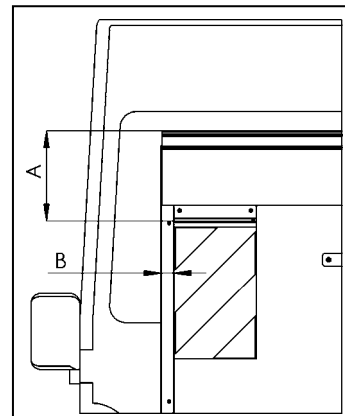
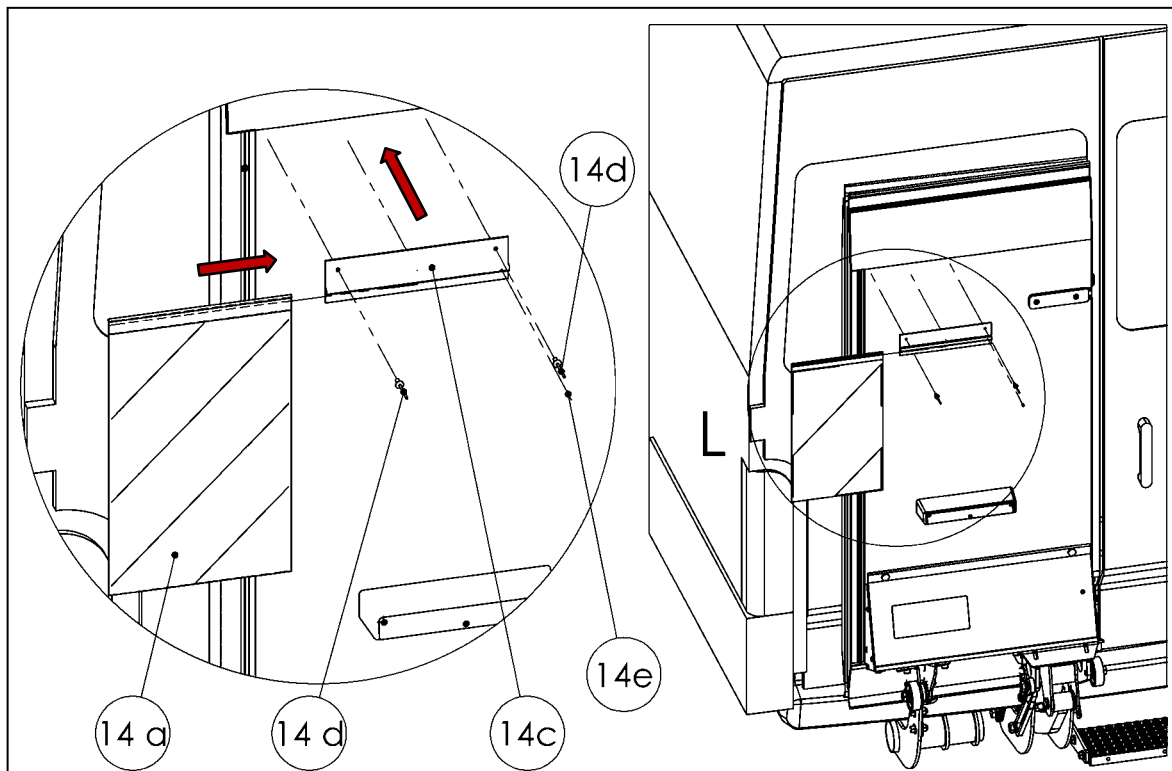
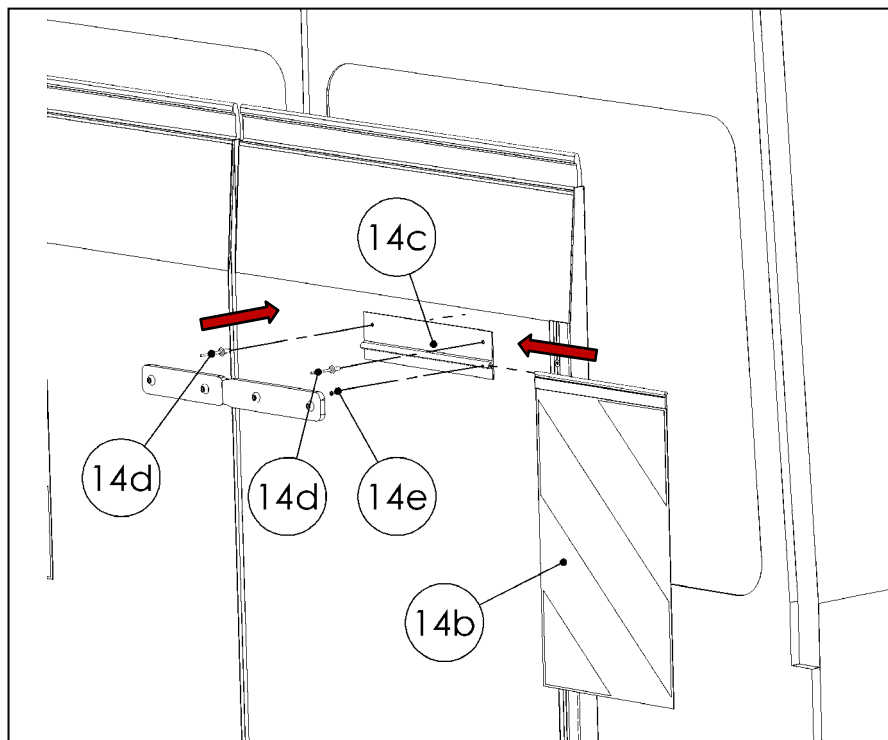

Figure 70
Figure 71
Figure 72
- Remove the warning flag kit (14, Part No. 60 710 330) from the accessories kit and mount it in accordance with the installation instructions below (Fig. 70, Fig. 71, and Fig. 72).
IMPORTANT: Mounting specifications: Comply with these mounting specifications (see Fig. 70):
IMPORTANT: Identify the left warning flag (14a) by the angle of the pattern (see Fig. 72).